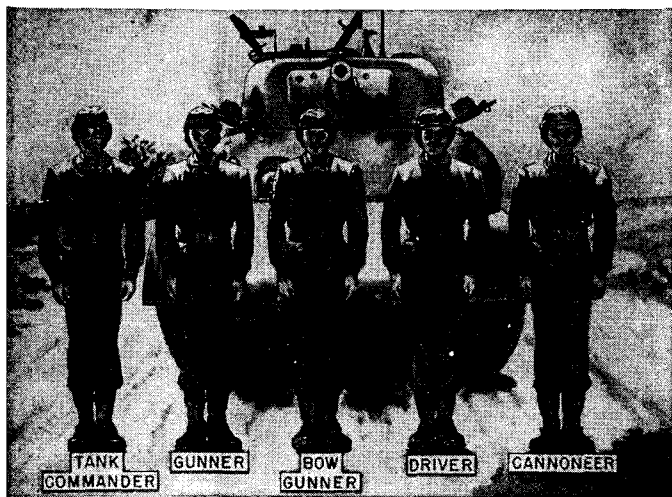

Figure 1. Medium tank crew, dismounted posts.
4. FORMATIONS. a. Dismounted posts. The crew forms in one rank (fig. 1). The tank commander takes post 2 yards in front of the right track, facing the front. The gunner, bow gunner, driver, and cannoneer, in order take posts on the left of the tank commander at close interval.
7. DISMOUNTED DRILL. a. To form medium tank crew. Being dismounted, the crew takes dismounted posts (fig. 1) at the command **FALL IN**.